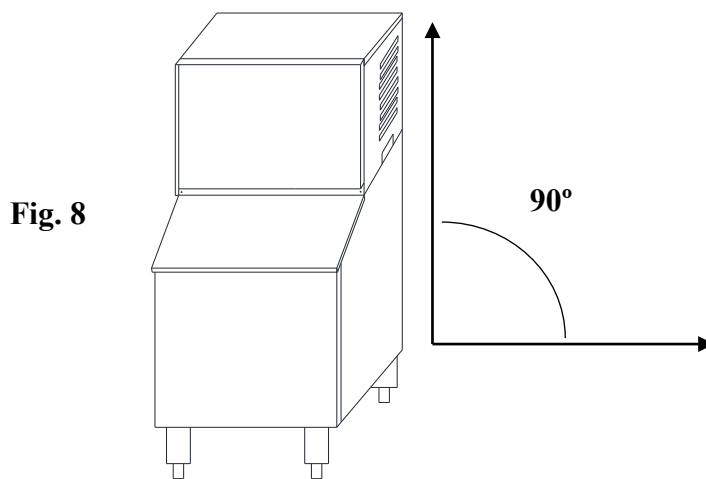

Fig. 8
7. Ensure the setup is level by using a carpenter's level or similar tool and rotating the adjustable legs (Fig. 8).